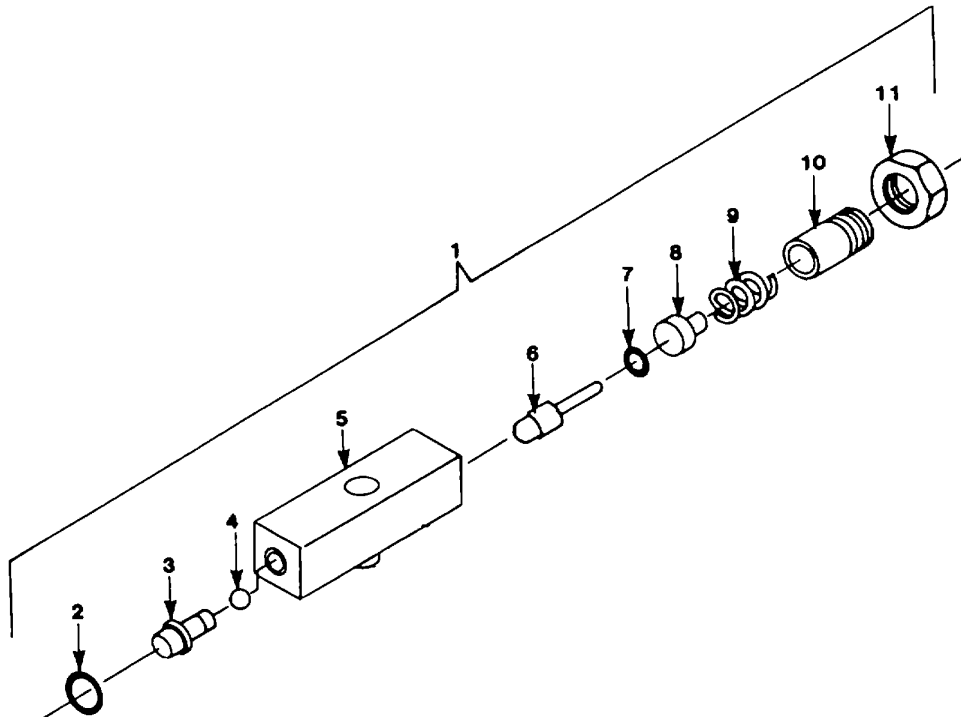

Figure 4-70. Pressure Maintaining Valve (PMV)
b. Disassemble (figure 4-70).
1. Loosen jam nut (11) on PMV.
2. Remove adjusting screw (10).
3. Remove spring (9) and pad assembly (8).
4. Remove screw seat (3) from inlet side.
5. Remove ball (4) and plunger assembly (6). Remove and discard O-ring (7).